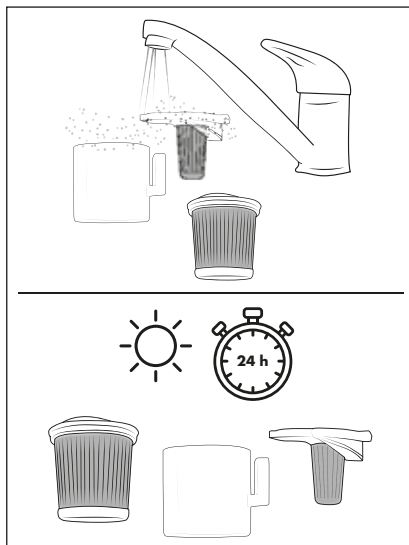

Fig. 18
- 5) Rinse the HEPA filter container **5**, the HEPA filter **4** and the stainless steel filter **6** under cold or lukewarm water. Allow the HEPA filter container **5**, the HEPA filter **4** and stainless steel filter **6** to air dry completely before putting them back into the dust container **7** (see Fig. 18).